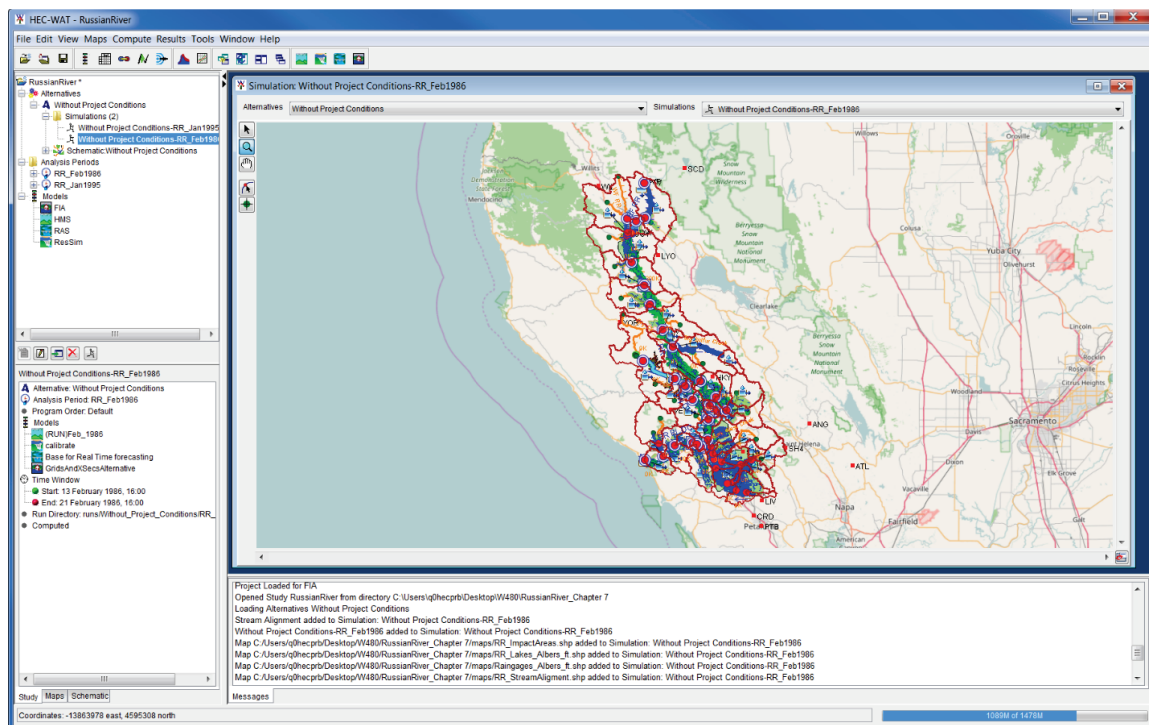

**Figure 13.1** Study Details Dialog Box – Plugins Tab – Deterministic
Plug-ins (Chapter 2) allow HEC-WAT to integrate software applications into its framework without requiring special code in HEC-WAT to support the individual software applications. Currently there are nineteen plug-ins available (Appendix B provides further details), eight specifically for standalone software applications, and eleven specifically for HEC-WAT functions. While all of these plug-ins are available, the user should inform HEC-WAT which plug-ins are needed in the **Study Details** dialog box (Figure 13.1). Plug-ins can be enabled/disabled from the **Options** dialog box (Appendix B), but this should only be done to enable/disable specific plug-ins for specialized studies or when there is an issue with a plug-in.
1. From the HEC-WAT main window (Figure 13.2), from the **File** menu, click **Study Details**, the **Study Details** dialog box (Figure 13.1) will open.
2. The **Study Details** dialog box (Figure 13.1) displays the name of the study, the study description (which the user can edit), location of the study file (\*.sty), the selected unit system, the selected coordinate system, the user name of the team member that created the study, and the date and time the study was created.
3. Click the **Plugins** tab (Figure 13.1), by default, all plug-ins are enabled (Figure 13.3). Alternatively, in Figure 13.1, shows the active study in which the only plug-ins enabled are FIA, HEC-SSP, HMS, RAS, and ResSim.
3. To disable a plug-in clear the check mark in the **Enabled** column of the table (Figure 13.1). When the user has the right plug-in configuration, click **OK**. The **Study Details** dialog box will close (Figure 13.1) and the plug-in configuration for the active study has been set.